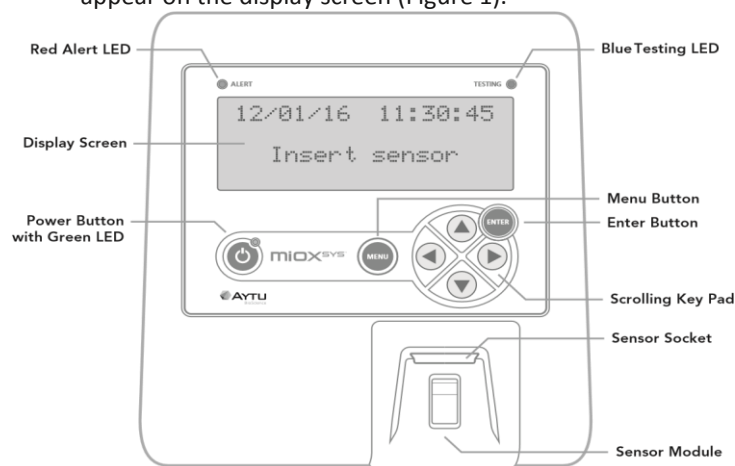

Figure 1. MiOXSYS Analyzer
5. When the MiOXSYS Analyzer is ready, "Insert sensor" will appear on the display screen (Figure 1).